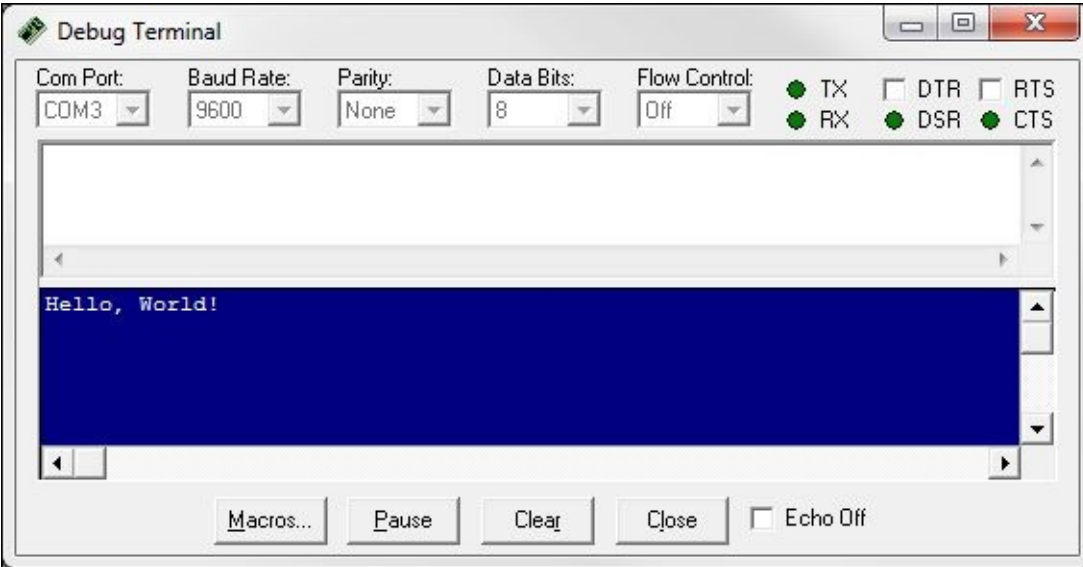

FIGURE 1-11: The Debug Terminal window.
7. **View the Hello, World! message displayed in the Debug Terminal window (shown in Figure 1-11).**